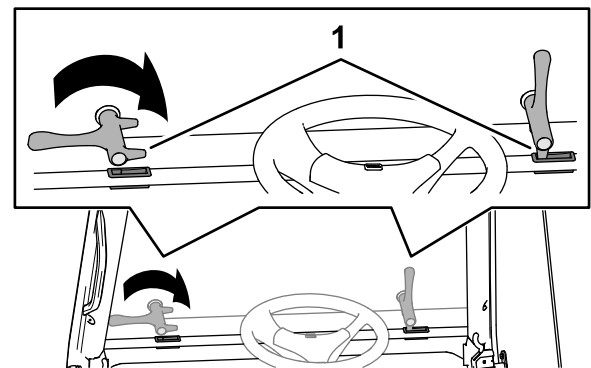

Figure 15
2. Align the rear latch pin with the socket (Figure 15).
3. Rotate the handles clockwise until they are vertical (Figure 15).